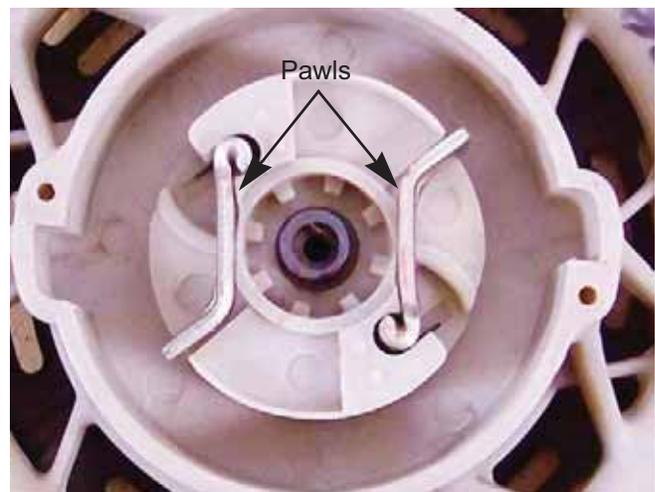

Figure 6.10
- Install the torsion springs and pawls so that the long arm of the spring reaches outside of the pawl, and draws it toward the center of the assembly. See Figure 6.10.